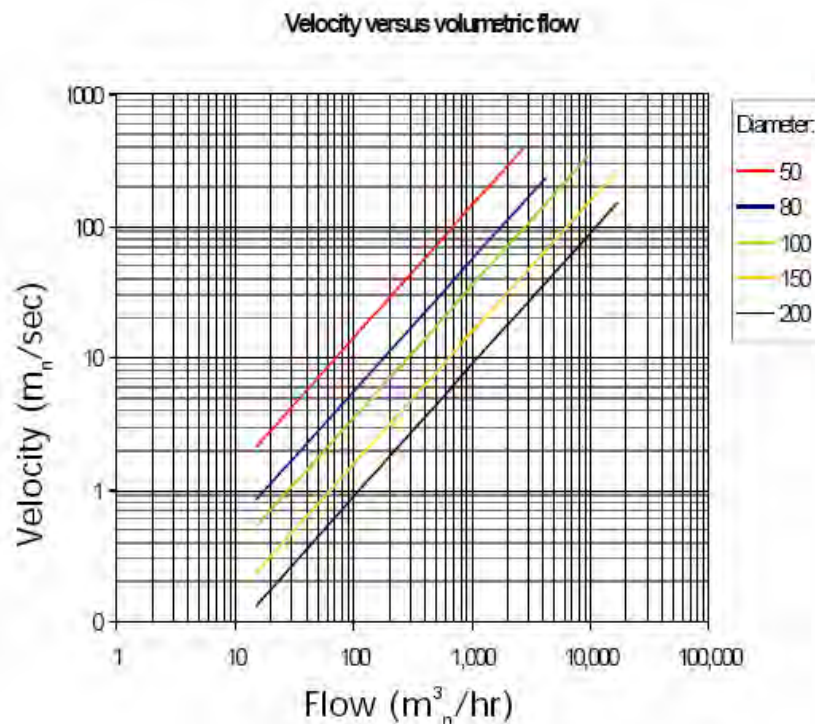

Fig. 1. Velocity vs volumetric flow graph
3. Determine the velocity in m_n/sec using Figure 1.